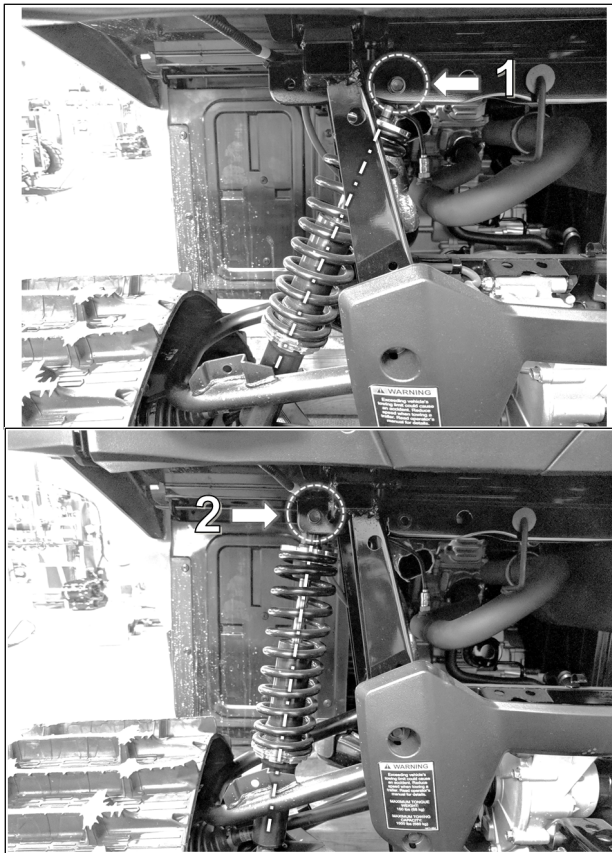

Fig. 21
1. Move upper mounting position of shocks from the more angled stock position (1) to the more upright position (2). See Fig. 21